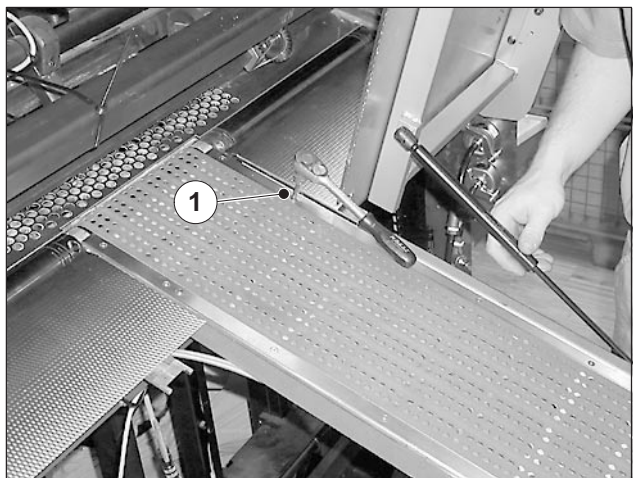

Fig. 99
3. Secure the suction tape module with the four screws (Fig. 99/1) on the feeder frame.